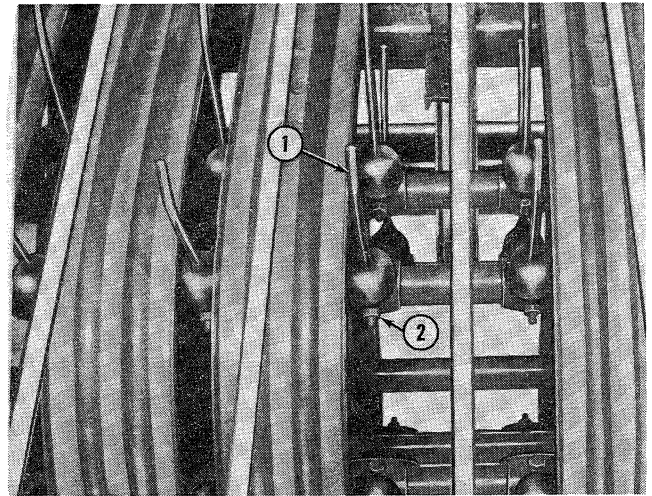

Figure 95
3. Remove the lock washer and nut (2), Figure 95, from the hex head bolt and remove the damaged tooth. Replace the damaged rubber mounted tooth with a new tooth (1). Secure the tooth to the pick-up bar with the previously removed hex head bolt, lock washer and nut (2).